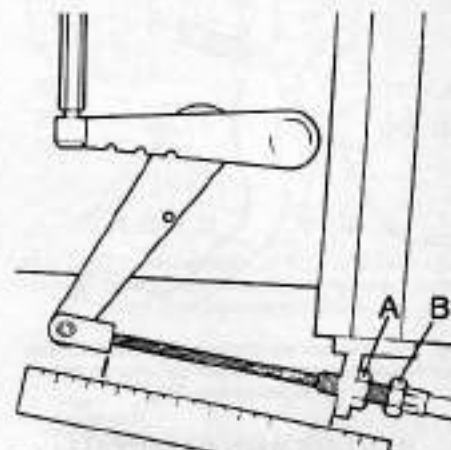

Fig. 135 - Adjust free play by loosening locknut (A) and turning adjusting sleeve (B) until free play is 3-5 mm (1/8-1/4 inch).
To adjust pto clutch linkage, place pto clutch lever in engaged position and remove return spring from clutch cross-shaft lever. Loosen locknut (A - Fig. 135) on cable adjuster (B). Turn cable adjuster (B) counter-clockwise to just remove any free movement in linkage, then turn adjuster clockwise one full turn. Free movement at end of cross-shaft lever must be 3-5 mm (1/8-1/4 inch). Tighten locknut (A) and connect return spring.